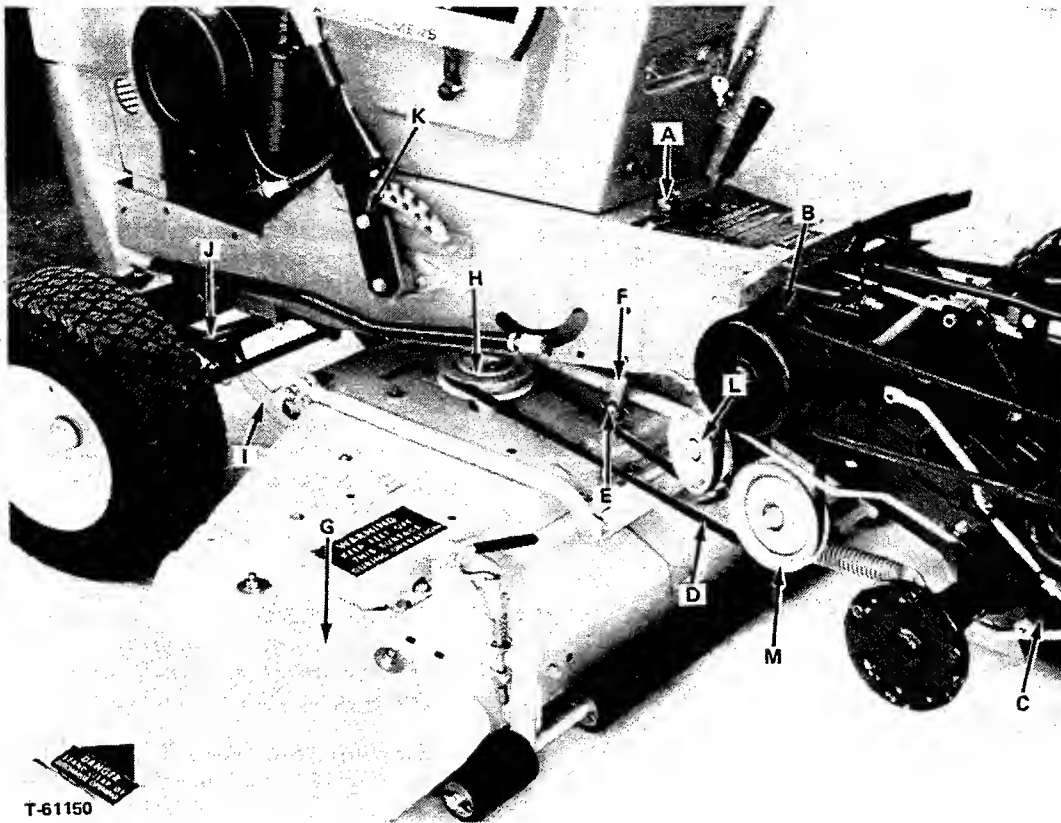
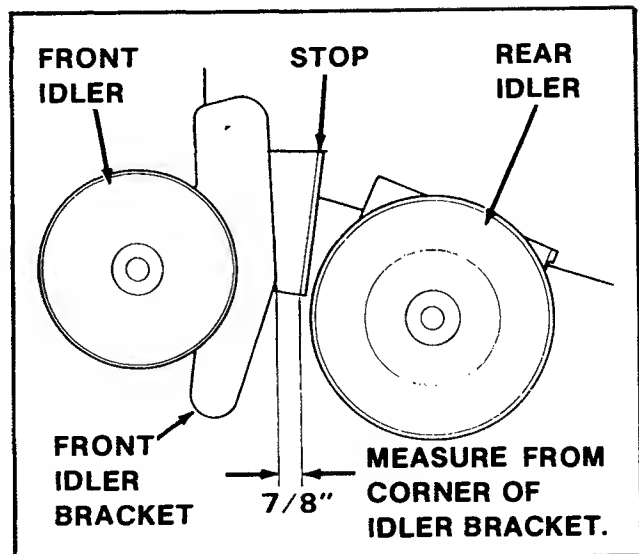

FIGURE 37 - Mower Installation
FIGURE 37A
4. Use the lift cable pin and spring clip to attach the tractor lift cable clevis to the mower lift anchor. (E, Figure 37).
- NOTE:** The front idler pulley (L, Figure 37) should be in the top mounting hole for mower installation.
8. Push the belt tensioning lever (C, Figure 37) fully down and forward.
10. Install the mower drive belt provided on the mower pulley and the tractor pulleys. The belt must be seated in the inner groove of the PTO pulley. Make sure that flat side of the belt contacts the front idler pulley (L).
12. Notice that the rear idler pulley (M) is mounted in a slot. The pulley can be moved forward or back to increase or decrease belt tension. For initial setting proceed as follows. With the pulley tensioning lever pulled fully up and back, measure the clearance between the front idler bracket and the stop. See diagram in Figure 37A. The clearance should be approximately 7/8" (22 mm). If not, push the belt tensioning lever down. Change position of the rear idler pulley in the slot. Recheck the measurement with belt tensioning lever pulled up and back.
2. Push the belt tensioning lever (C, Figure 37) fully down and forward to release mower belt tension.
3. Raise the tractor seat deck and remove the mower drive belt from the mower and tractor pulleys (see Figure 37). Close the tractor seat deck.